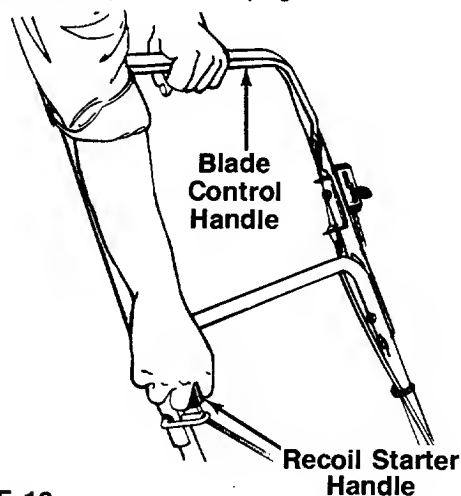

FIGURE 18.
5. Standing behind the unit, depress the blade control handle and hold it against the upper handle as shown. See figure 18.